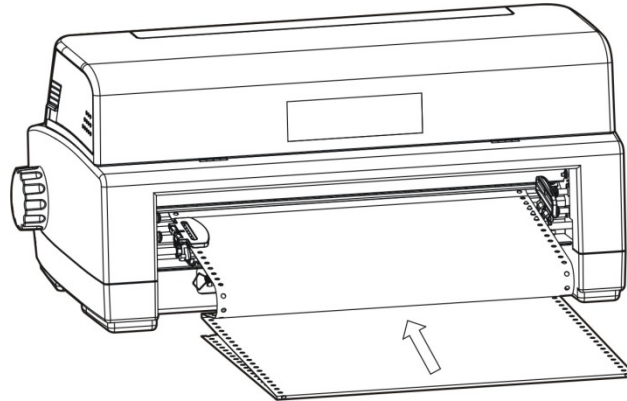

Figure 3-6 Installing the tractor paper onto the sprocket of the tractor (optional)
4. Open the sprocket cover, then install the tractor paper onto the sprockets and close the sprocket cover. (As shown in figure3-6)